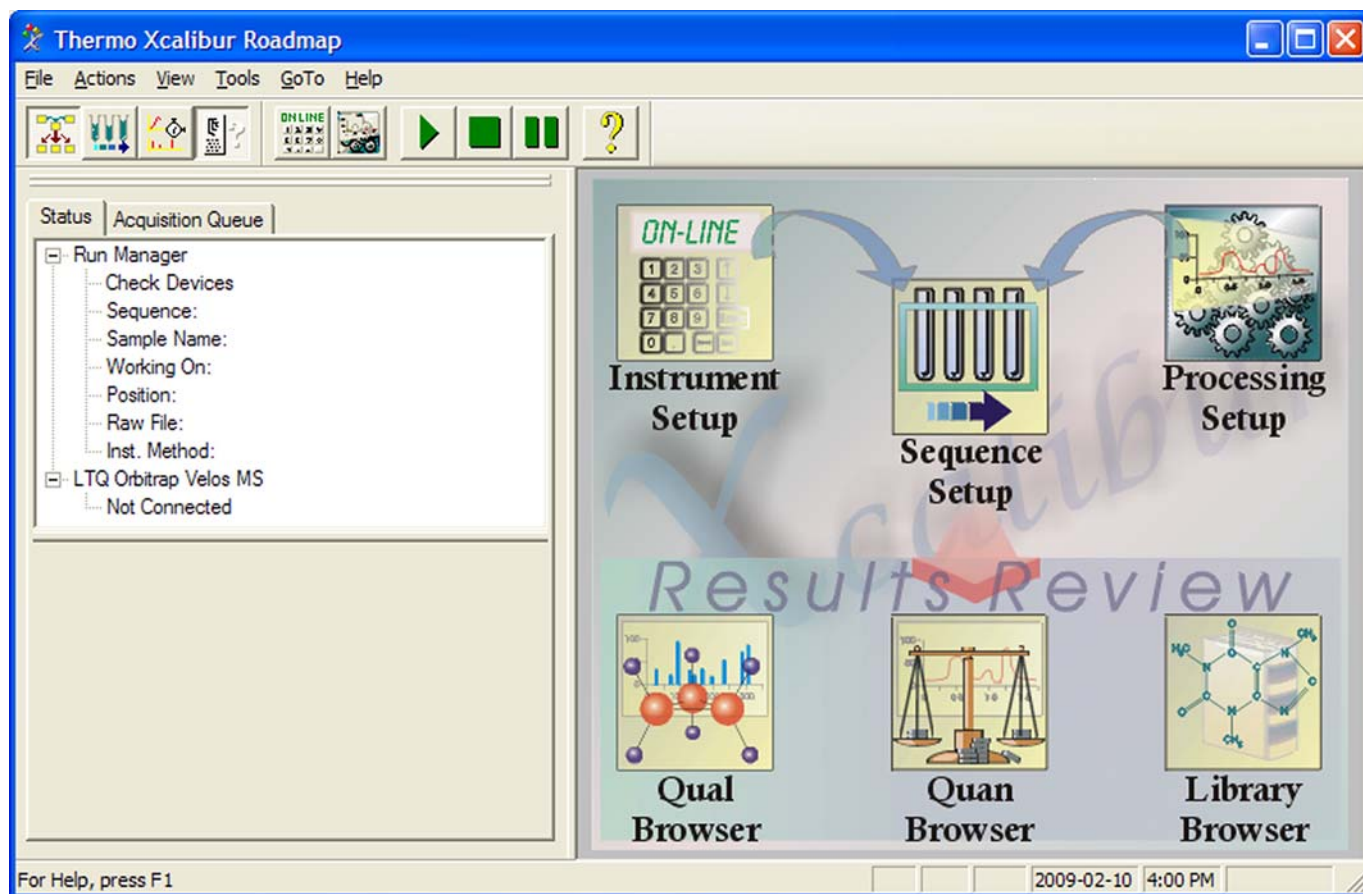

Figure 7-32. Xcalibur Roadmap Home Page
1. Open the Xcalibur application (for example, from the Microsoft Windows desktop). The Roadmap Home Page appears. See Figure 7-32.
11. Click **File > Save As** to save your Xcalibur method under the file name of your choice. (See Figure 7-37.) This method can be chosen and run when Sequence Setup is chosen in the Xcalibur Roadmap Home Page. (See Figure 7-32 on page 7-35.) Refer to your Xcalibur software online Help and the previous chapters of this manual for information about the other Data Dependent settings.